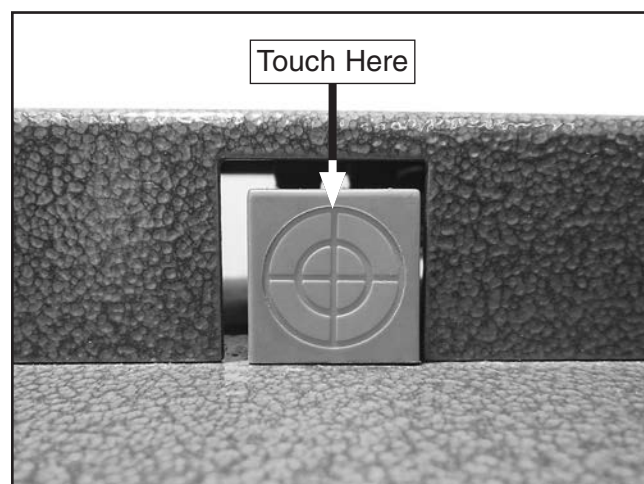

Figure 45. Limit switch target.
- Touch each limit switch target with a scrap piece of iron or steel (see **Figure 45**).